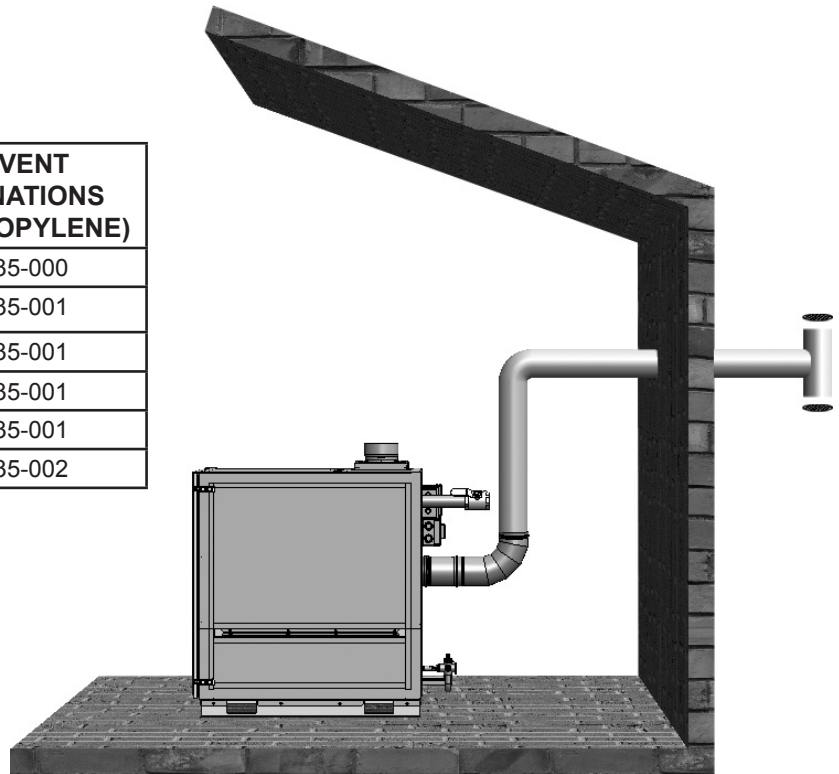

FIGURE 25. HORIZONTAL VENTING/ TERMINATION
2. **Through-the-Wall Termination (TWT)** - horizontal vent termination directly through an outside wall, see Figure 25 on Page 29.